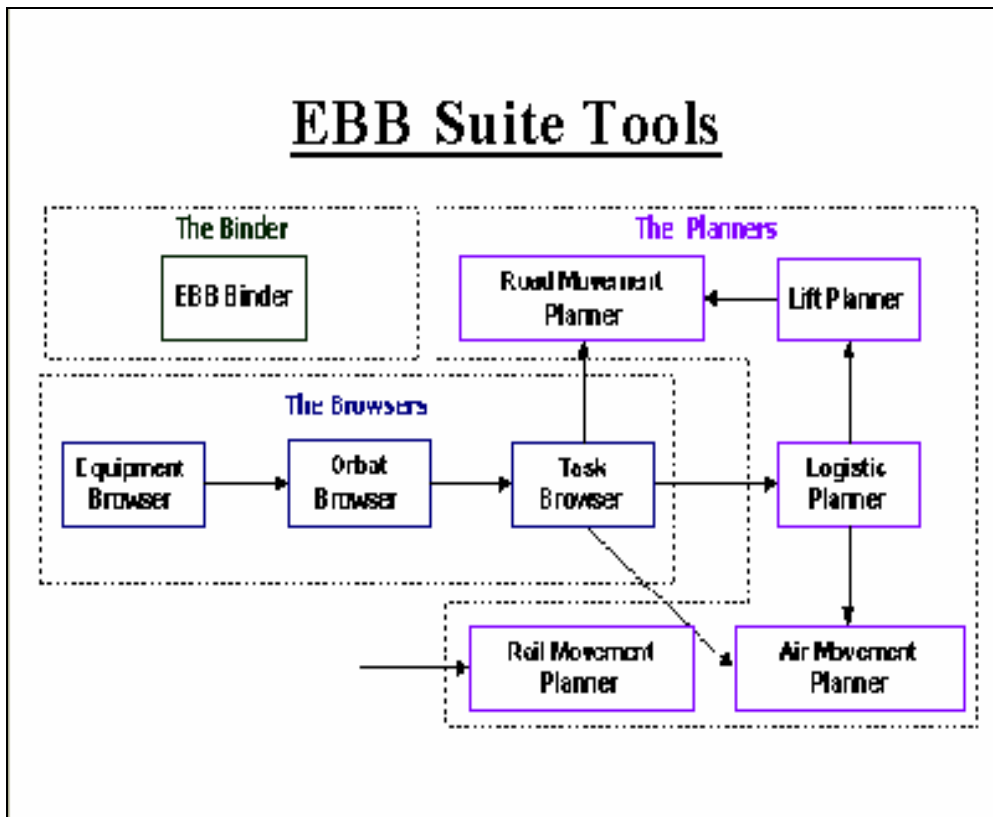

Figure 1: The EBB Suite Tools Usage Sequence
4. The EBB Suite is composed of nine different tools including one binder, three browsers and five planners. The binder is the entry point to access the browsers and planners of the Suite. The browsers are used to browse and enter the information and parameters related to the operation, while the planners are used to provide various calculation results based on the information specified in the browsers. Figure 1 presents the suggested usage sequence for tools. An arrow linking two tools means that some data created by one tool are required by the other. For example, from this schema, a logistic option should be estimated before going in the Lift Planner.